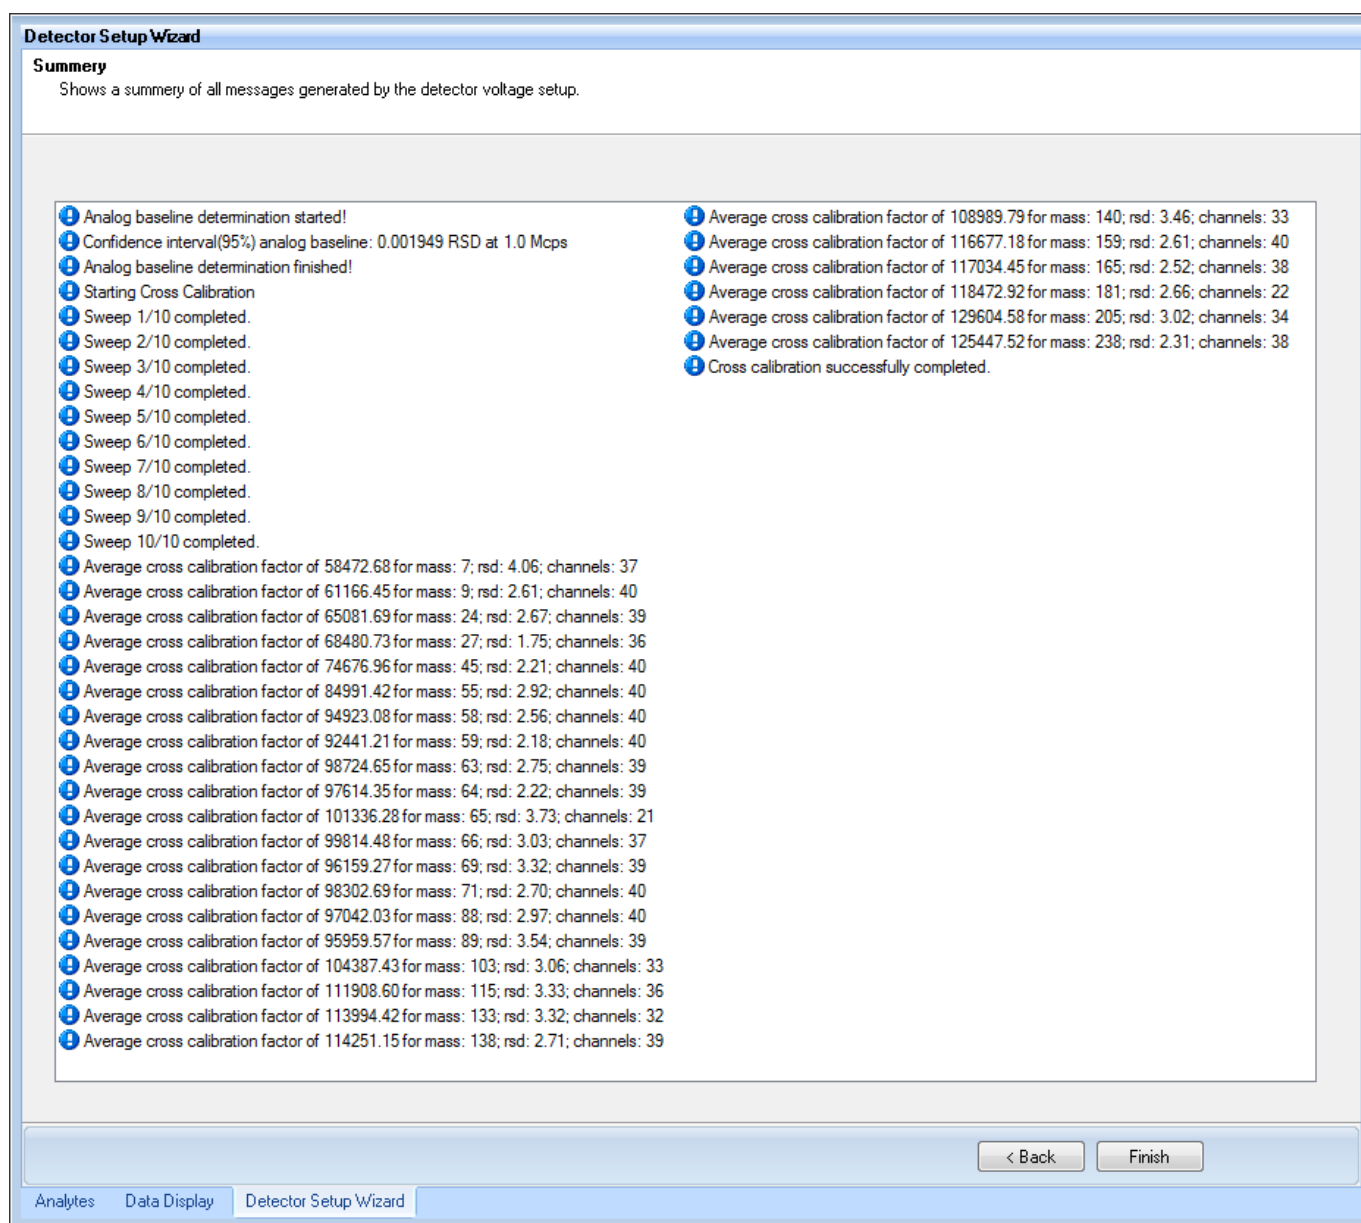

Figure 4-71. Cross calibration completed in wizard
14. Click **Next**, see Figure 4-71.